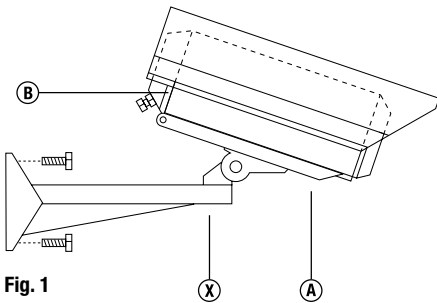

Fig. 1
1. Fasten in the requested position the bracket (X) using \varnothing 8mm screws with the suitable rawbolts (fig. 1).
2. Loosen the screw (A) and unscrew the two screws (B) with 4mm Allen key (fig. 1).